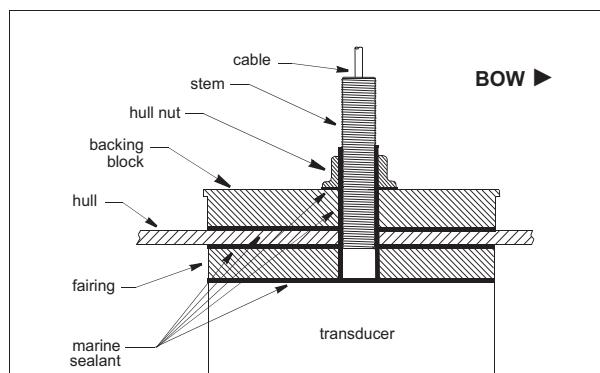

Figure 5. Bedding and installing (B258 with Standard Fairing shown)
1. Remove the hull nut (see Figure 5).
4. Apply a 2mm (1/16") thick layer of marine sealant to the following surfaces (see Figure 5):